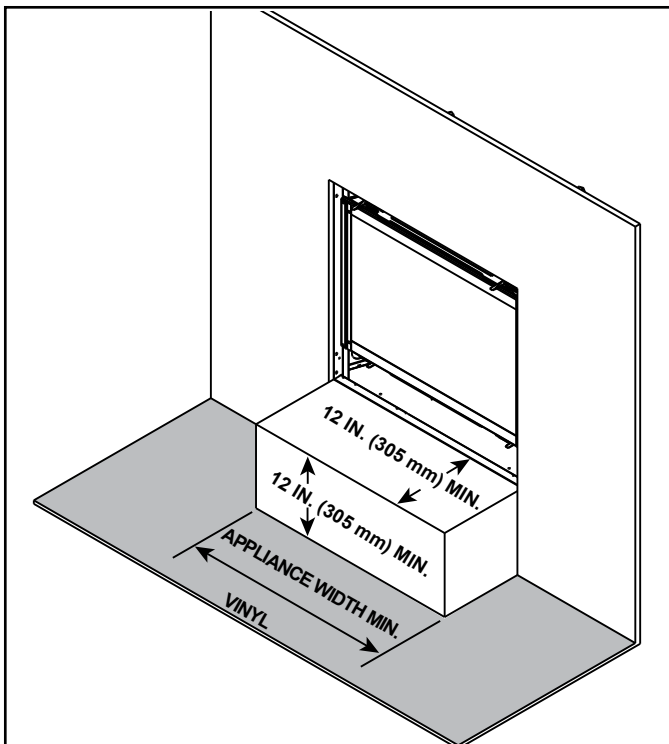

Figure 8.9 Vinyl Flooring Recommendations
- Vinyl Adhesive flooring is acceptable in front of the appliance when the appliance is raised off the floor 12 inches (305 mm) or more. See Figure 8.9.
Vinyl flooring is sensitive to heat. To avoid damage to the vinyl flooring, a 12 inch minimum x 12 inch minimum hearth is recommended when using vinyl flooring up to the wall. See Figure 8.9. If no hearth is used, it is recommended to provide a minimum of 24 inches of clearance in front of the appliance to the vinyl flooring OR the bottom of the appliance should be raised a minimum of 24 inches off the floor to allow the vinyl flooring to be installed up to the wall.